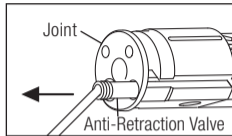

Fig. 47
- 2 Pull out the joint then pull out the old Anti-Retraction Valve with a thin stick. (Fig. 47).